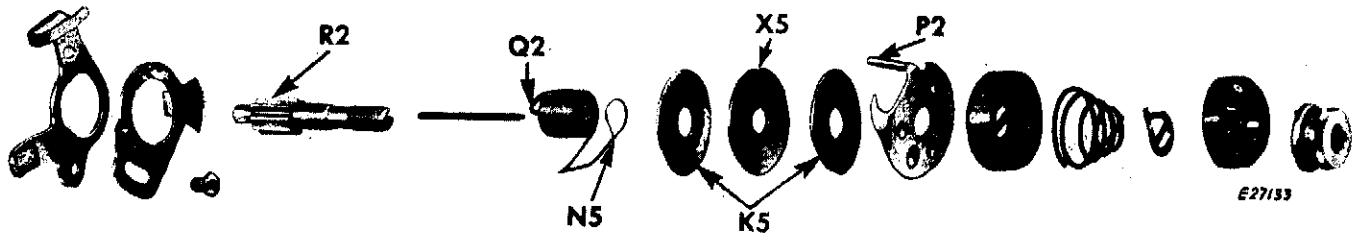
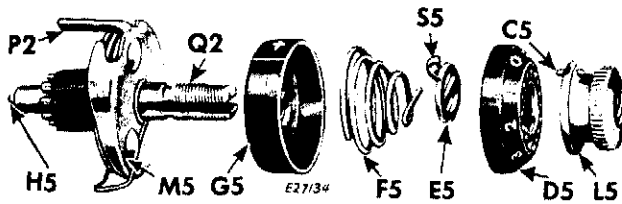
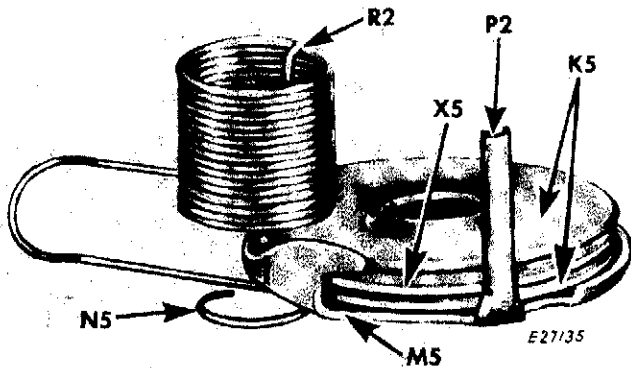

Fig. 306. Needle Thread Tension — Exploded View
Fig. 307. Needle Thread Tension
Fig. 308. Tension Disc Assembly
1. Turn thumb nut **L5**, Fig. 307 to left (counter-clockwise) until "0" on numbered dial **D5** stops at center line on indicator **G5**, Fig. 307.
2. Press in dial **D5**, separating pin **C5** in thumb nut **L5** from hole in dial **D5**; unscrew thumb nut **L5** and remove it from stud **Q2**, Fig. 307.
NOTE: It is not necessary to remove stud **Q2** from machine to disassemble the thread tension. It is shown removed in Figs. 306 and 307, to illustrate complete assembly. See page 132 for instructions on removal and replacement of entire tension assembly.
3. Other parts may be removed from the stud **Q2** in the order which they are shown in Figs. 306 and 307.
1. Replace parts on stud **Q2** in the order in which they are shown in Figs. 306 and 307.
2. Make certain that tension releasing pin **H5** is in place as shown in Fig. 307.
3. Place the two tension discs **K5** with their convex faces against flat disc **X5** in center, as shown in Fig. 306. These three tension discs should be behind thread take-up spring thread guard **M5**, as shown in Fig. 307.
4. Pass eyelet **N5**, Fig. 306 of take-up spring under thread guard, having coils of spring above tension discs, as shown in Fig. 308.
5. Guide the tension disc assembly on the stud **Q2**, so that extension **P2**, Figs. 306, 307 and 308 enters hole, provided for it in machine arm and so that the tail **R2**, Fig. 308, inside the spring coil, enters one of the grooves at the rear of the stud **Q2** (see also page 132).
6. Replace indicator **G5**, Fig. 307 with its large open side facing the split end of the stud — with plus and minus mark on top — “minus” at left and “plus” at right.
7. Hold these assembled parts against shoulder of stud, insert tension spring **F5**, Fig. 307 in indicator, with first half-coil of spring **F5** straddling lower half of split stud.
9. Place the numbered dial **D5**, Fig. 307 so that the number “2” is opposite stop washer extension **S5**.